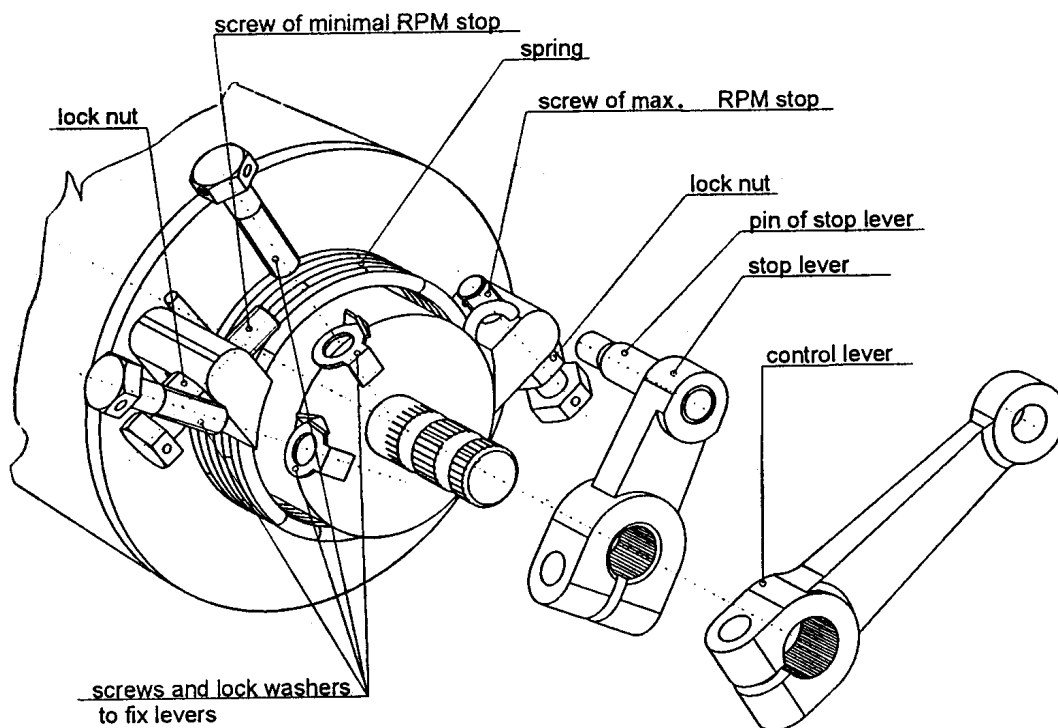

Fig. 6
5.6.3 Adjusting minimal propeller RPM (see Fig. 6)